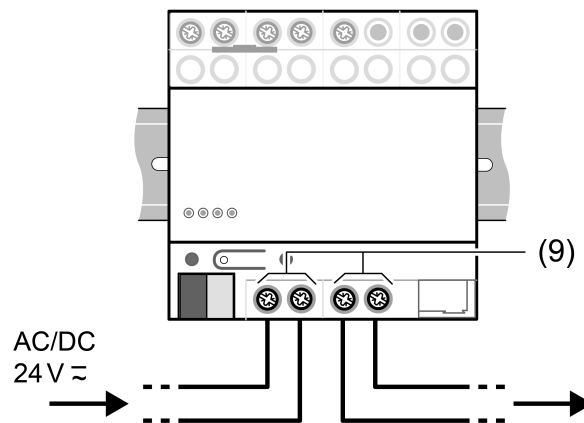

Figure 6
Both terminal pairs (9) can be used for looping through the external power supply (Figure 6).